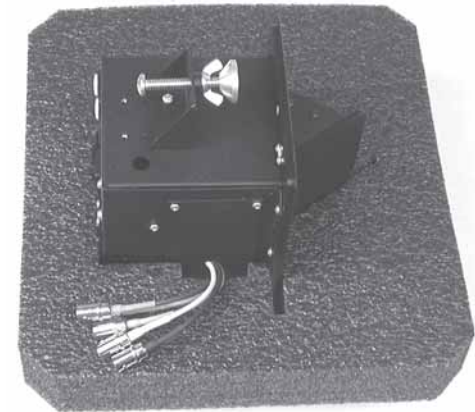

Figure B-3 — Installing the HSA into the foam shell
5. Open the top panel and insert the HSA 200 or HSA 222 into the custom cutout portion of one of the foam shells (figure B-3).